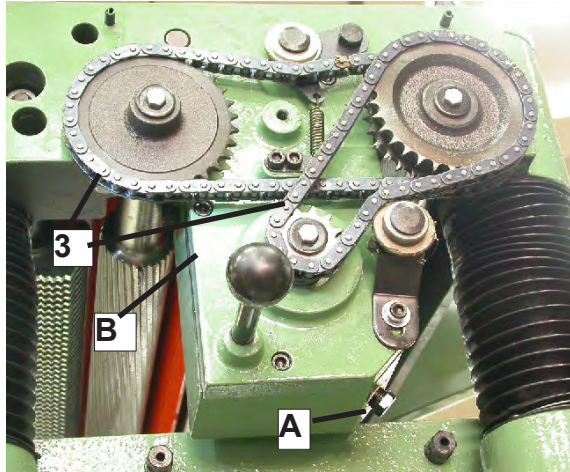

Fig 4
1. Remove the drain plug (A). Fig 4 and tiller Cap (B) , Drain dirty oil thoroughly.
2. Tighten the drain plug (A)
3. Fill with clean lubricant through hole (B)
4. Tghten the filler cap (B)